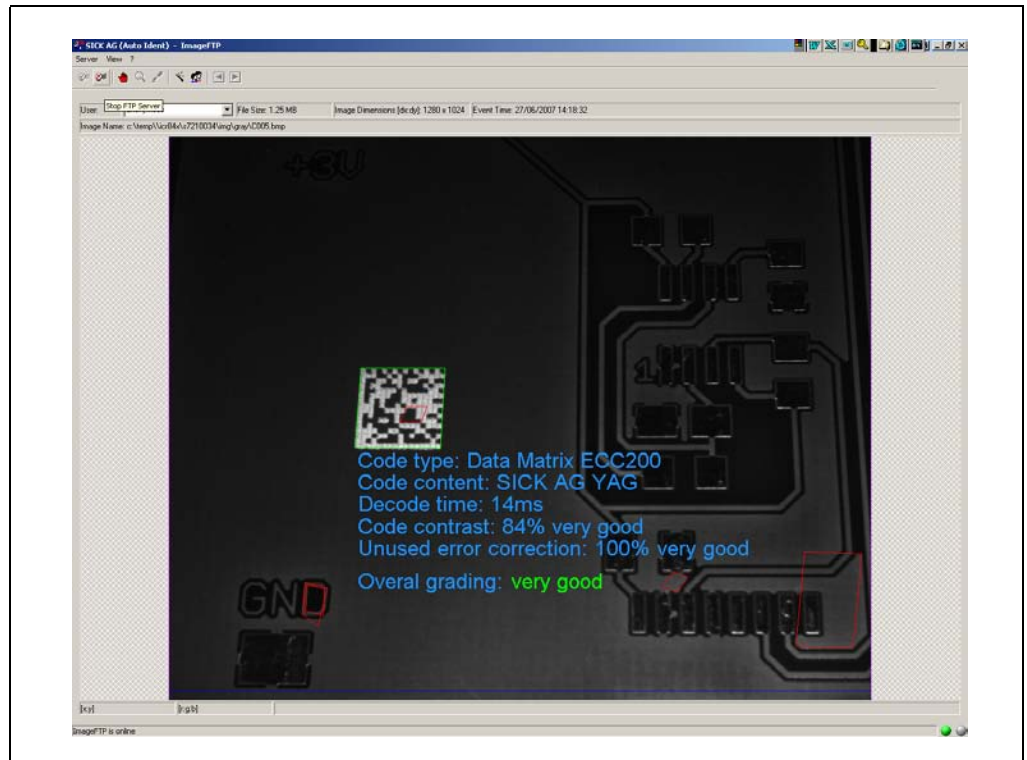

Fig. 6-9: ImageFTP: Image output
- In ImageFTP, check the recorded and transferred image. The Data Matrix code must clearly be visible with sufficient sharpness and be undistorted (see sample in Fig. 6-9). ImageFTP also displays the derived reading diagnosis data in the image (if enabled for visualisation as set in default setting).